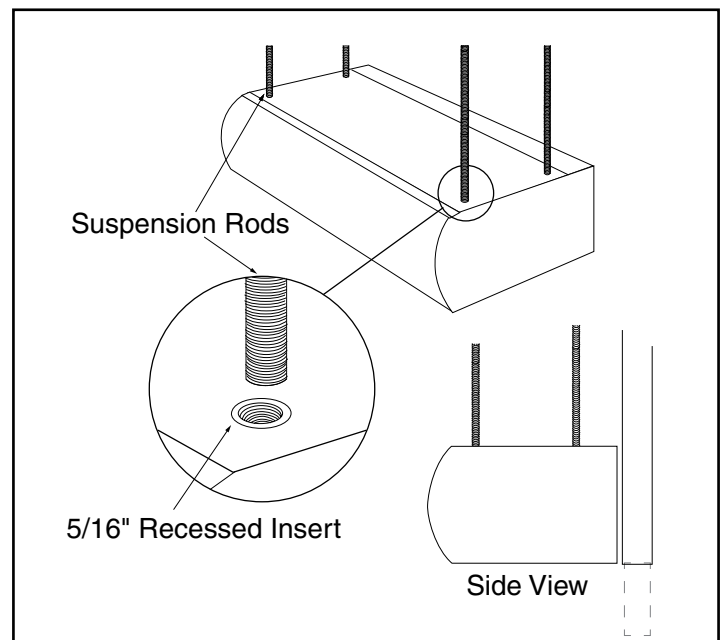

Figure 6
- B. For top mounting using suspension rods, four (4) factory installed 5/16" threaded inserts are located on the top of the unit. **See Figure 6.**